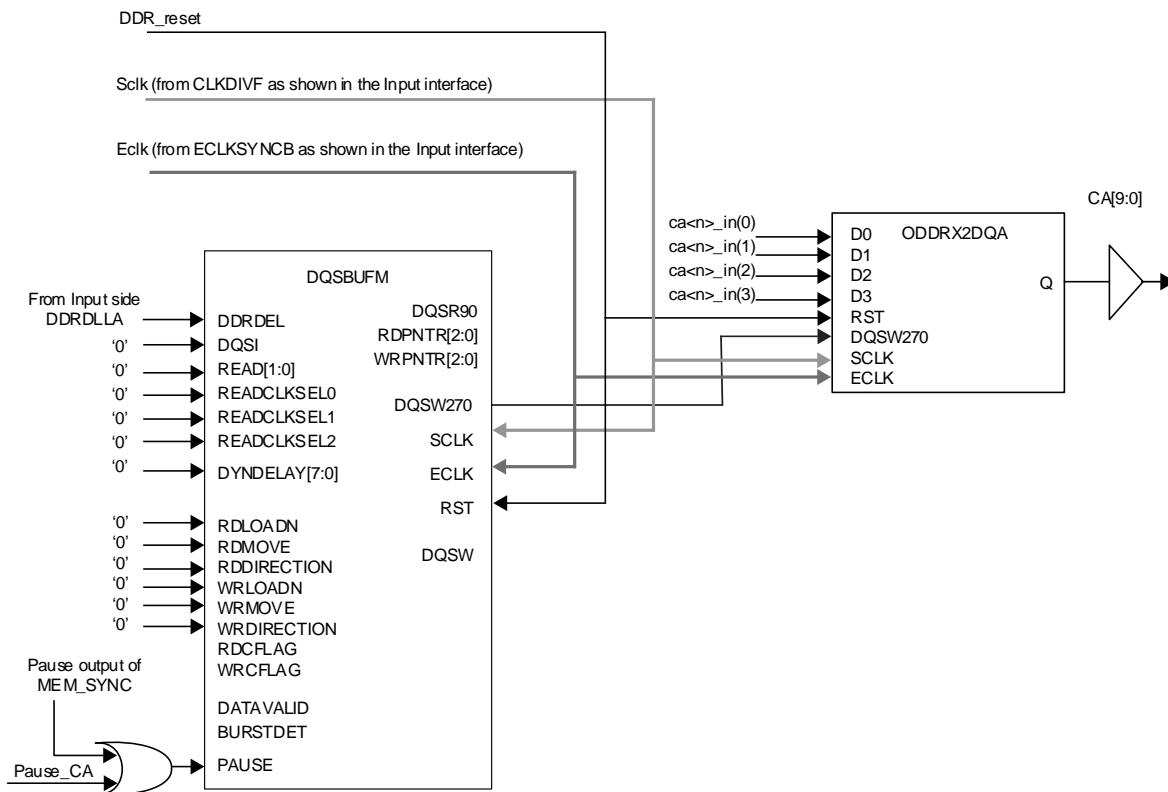
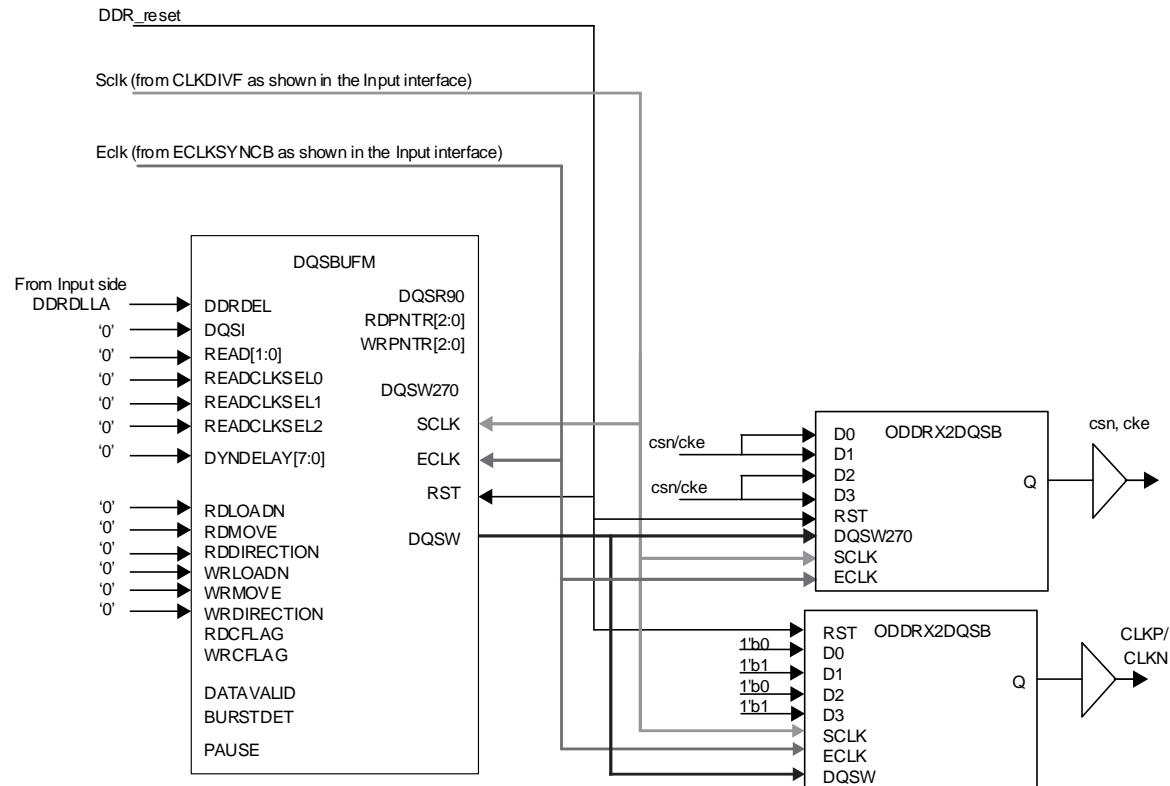
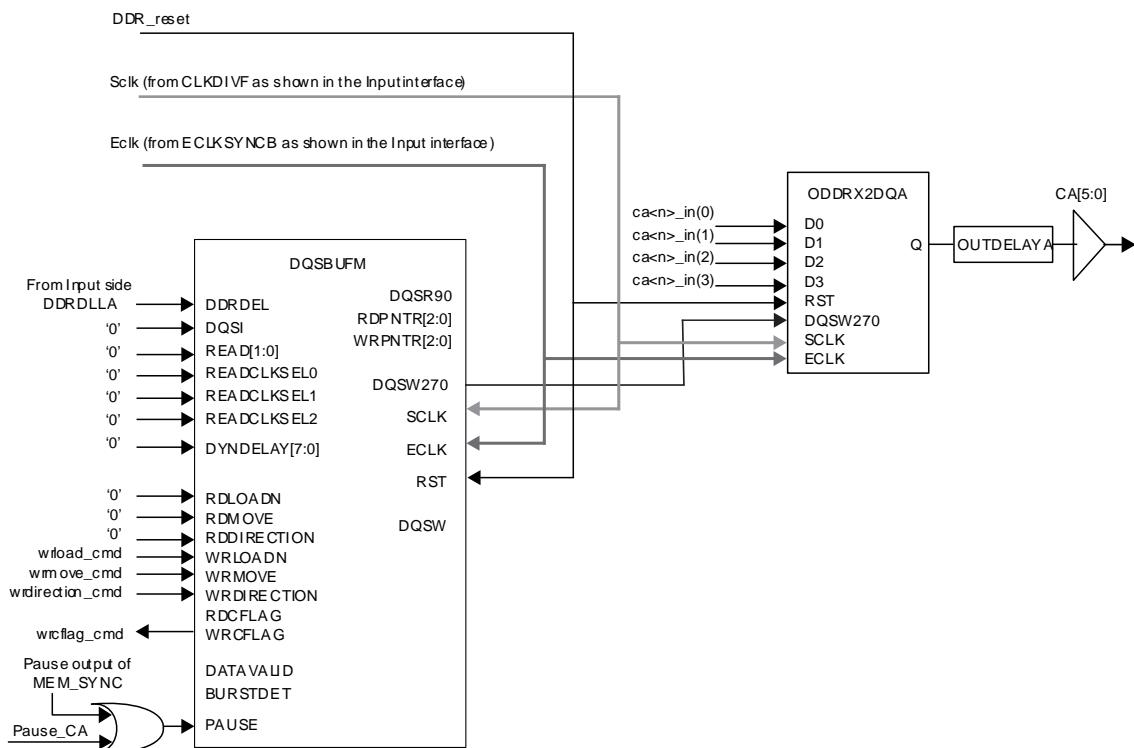
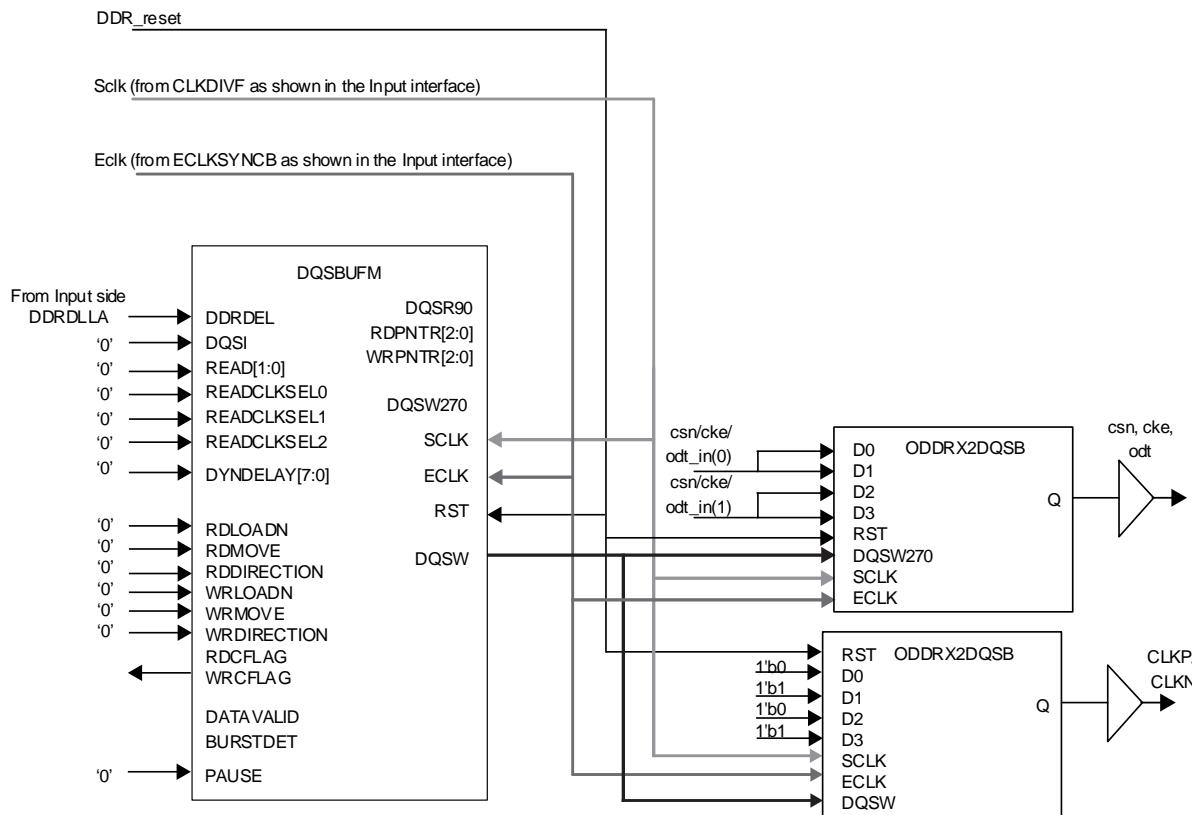

Figure 6.13. LPDDR2 Output for CA Generation
Figure 6.14. LPDDR2 Output for CSN, CKE, and CLOCK Generation
Figure 6.15 LPDDR4 Output Side for CA Generation
Figure 6.16. LPDDR4 Output Side for CSN, CKE, ODT, and CLOCK Generation
- ODDRX2DQA module to generate the CA[9:0](LPDDR2)/CA[5:0](LPDDR4) outputs (Figure 6.13, Figure 6.15 , and Figure 6.16).
- ODDRX2DQSB with D0 and D1 tied together and D2 and D3 tied together to generate CSN, CKE signals (Figure 6.14 and Figure 6.16).